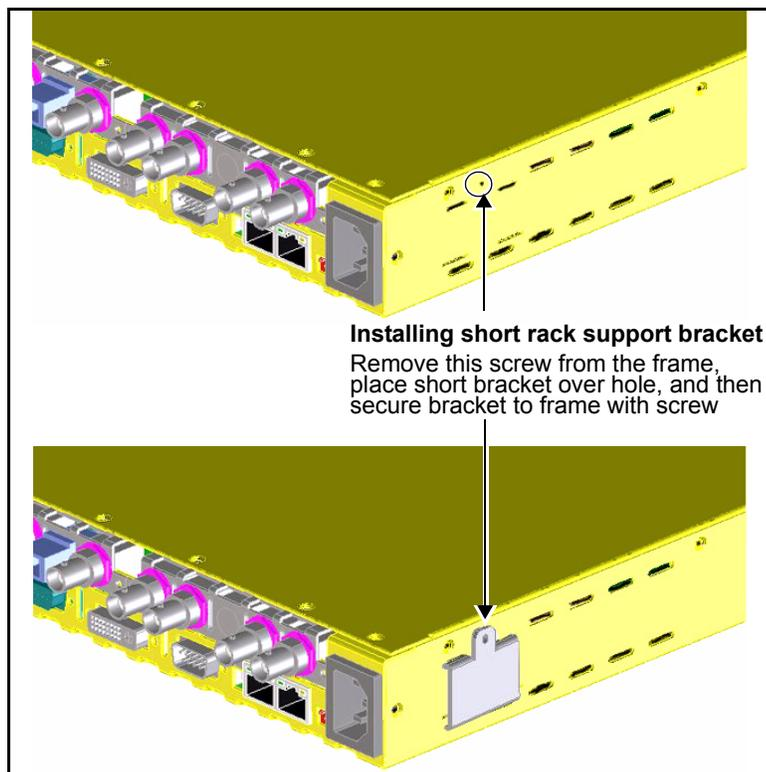

Figure 3. Location of Short Bracket Support Screw
2. Attach the short rack support brackets to the sides of the X75 frame using the screws that are provided in the frame holes. (See Figure 3 on page 6.)